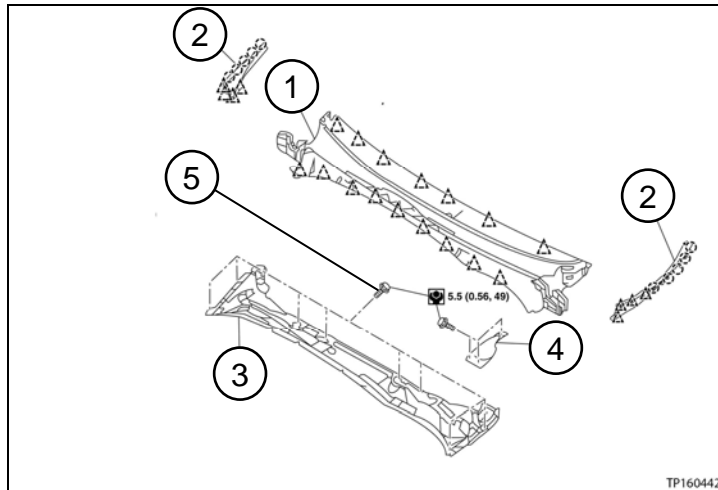
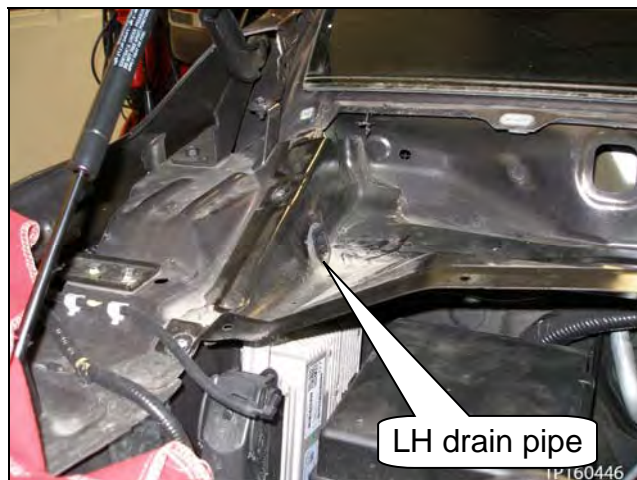

Figure 7
Figure 9
- e. Using a suitable tool, unsnap all pawls and clips, and then carefully remove the cowl top cover (see Figure 7, # 1).
NOTE: Remove the cowl top side trim cover(s) as needed (see Figure 7, # 2).
- f. Remove the cowl top extension bracket (see Figure 7, # 4).
- h. Remove the eight (8) bolts and both drain pipes, and then remove the cowl top extension (see Figure 7, # 3 & 5, and Figure 9 and 10).